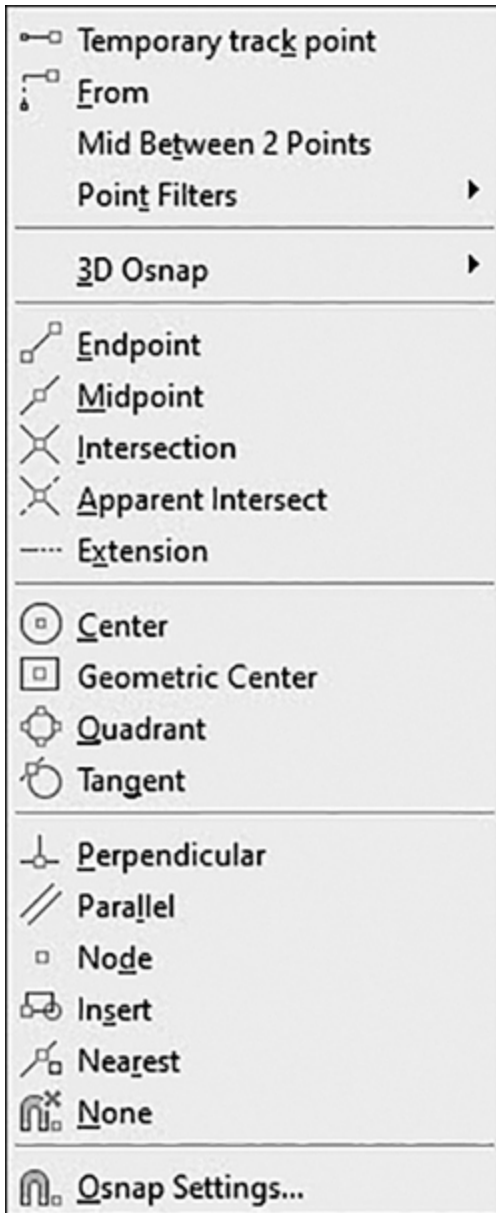

Figure 5-16
- Select the object snap from the **Object Snap** right-click shortcut menu (see Figure 5-16). The **Object Snap** shortcut menu is displayed by holding down the **<Shift>** key on your keyboard while right-clicking with your mouse.